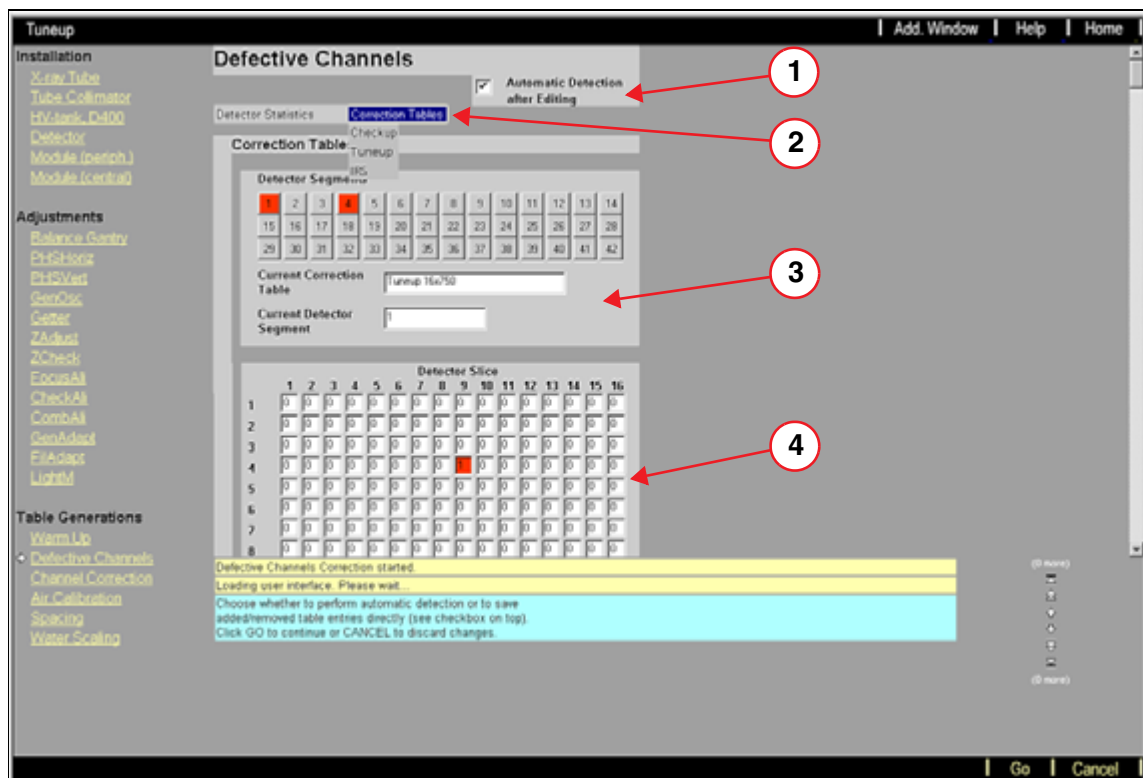

Fig. 25: Defective channels procedure
Recommendation: Check for existing defects prior to run the defective channel measurement (3/4/ Fig. 25 / p. 69). Defective channels are marked in red. Perform the defective channel correction and check if previously detected channels are used again. In this case the above tuneup steps shall be performed. If all previously detected channels remain defective or even new ones are detected, no additional tune up steps have to be performed.
- The number of defective channels detected during the tune-up procedure "Defective Channels" and during the checkup can be checked under "Detector Statistics", Fig.25. In Somaris VB19, select Detector Statistics/Defect Numbers.